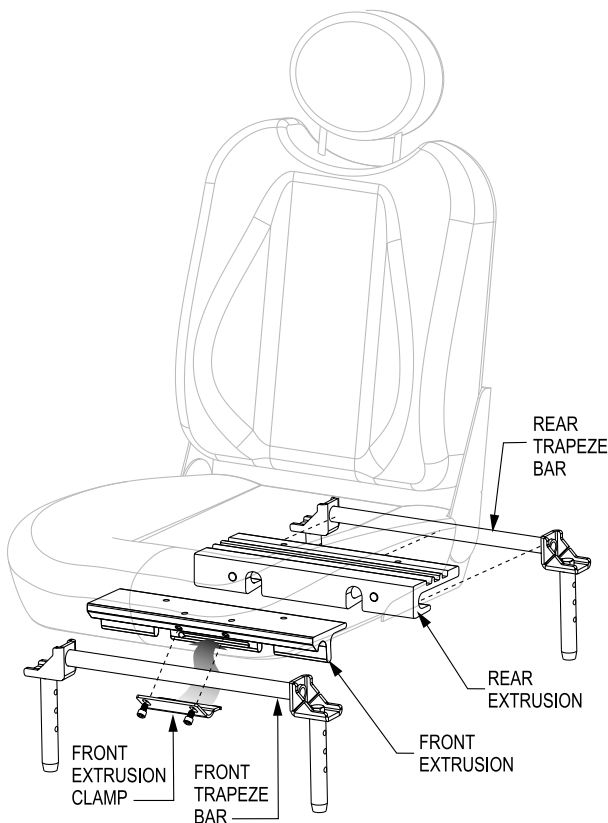

Figure 7. Universal Mounting System
2. Remove the front extrusion clamp from the front extrusion. See figures 7 and 8.
2. Remove both extrusions from the bottom of the seat. See figure 7.